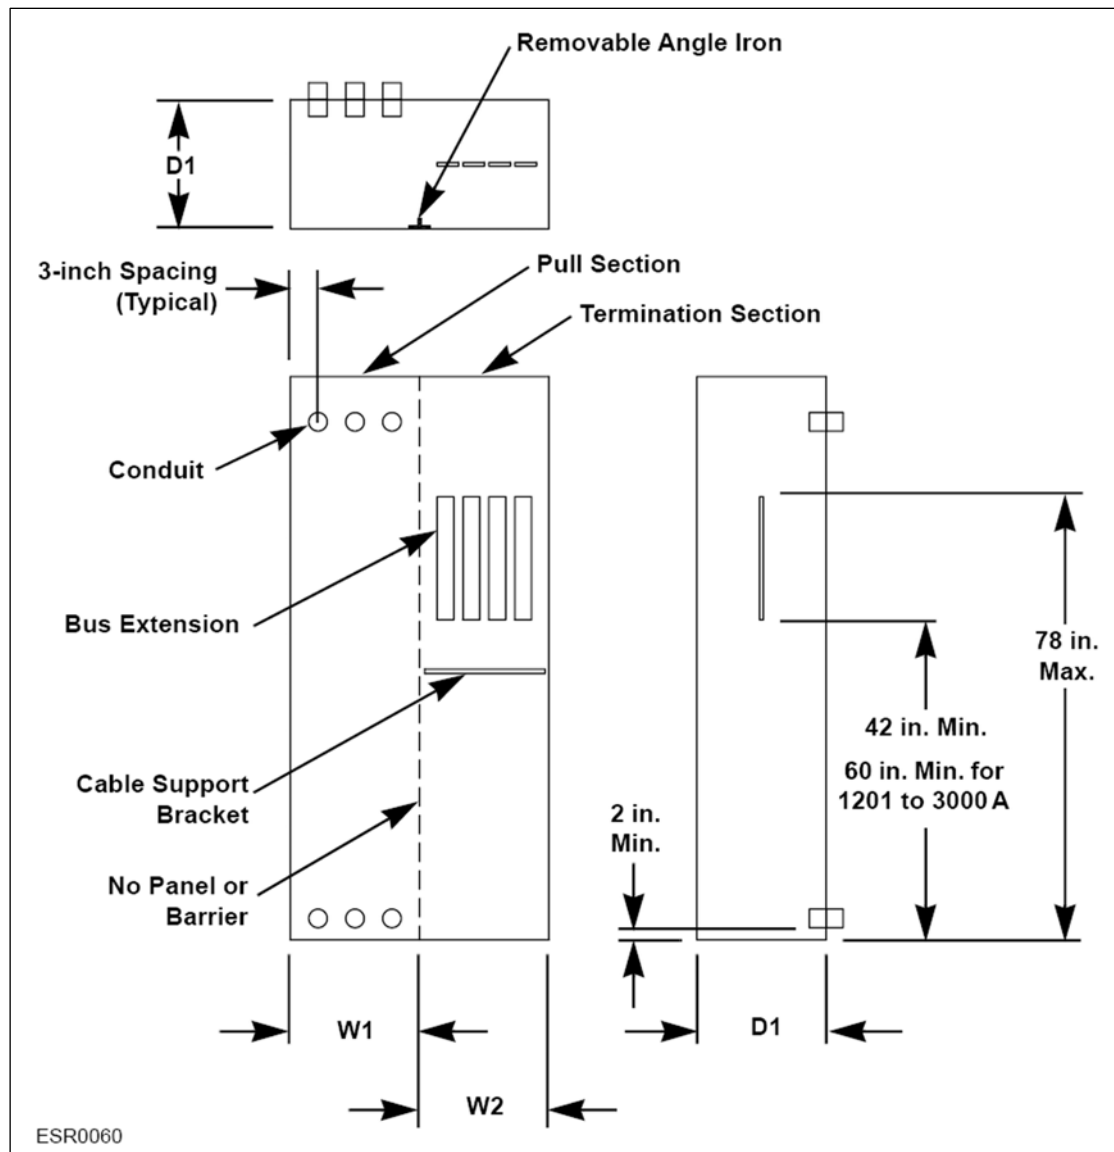
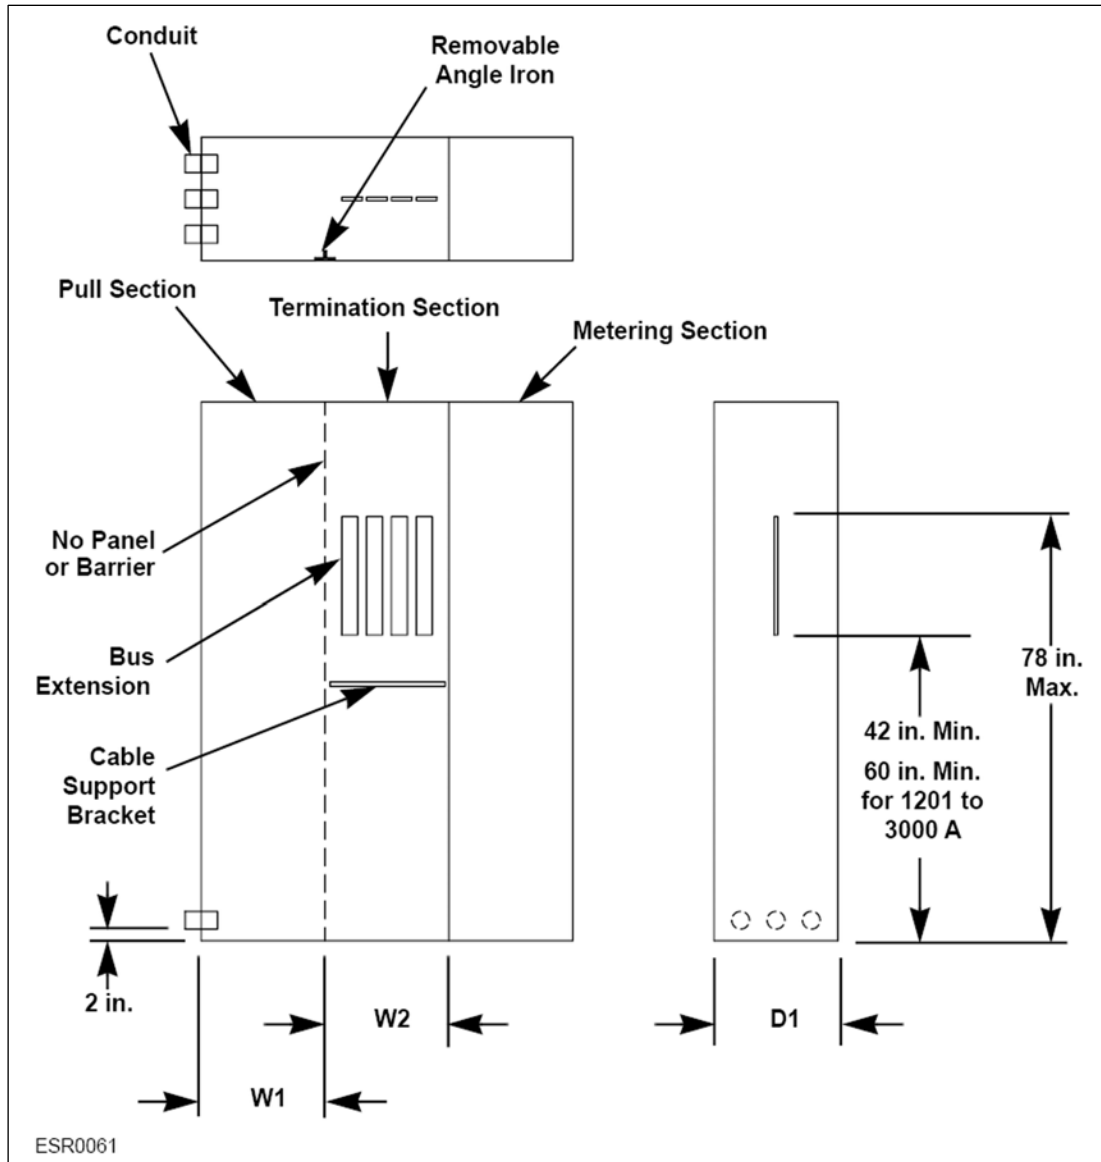

Figure 91: Underground Service Termination in a Pull Section Below Ground Level, Showing Pull Section with Back-Entry Conduits at the Top or Bottom
Figure 92: Underground Service Termination in a Pull Section Below Ground Level, Showing Pull Section with Side-Entry Conduits at the Bottom
- Side penetrations (such as shown in **Figure 92** on page 142) are allowed only if the source vault is less than 30 feet from the penetration into the gear with no bends in the conduit run.
- **Figure 91** shows a pull section with back-entry conduits at the top or bottom.
- **Figure 92** shows a pull section with side-entry conduits at the lower end of the section.
- The pull section and termination section shown in **Figure 91** and **Figure 92** are reserved for PGE supply conductors. No conduits or customer wiring is to be installed in—or routed through—this area.